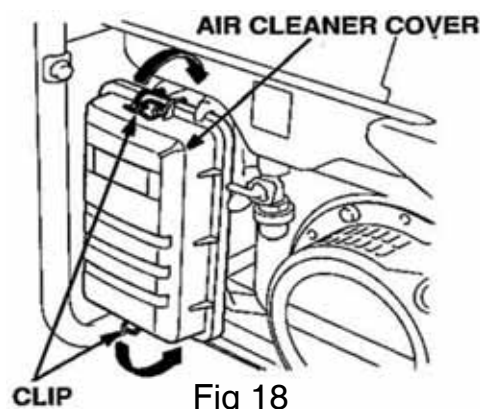

Fig 18
1. Unsnap the air cleaner cover clips, remove the air cleaner cover, and remove the element. (Fig 18)